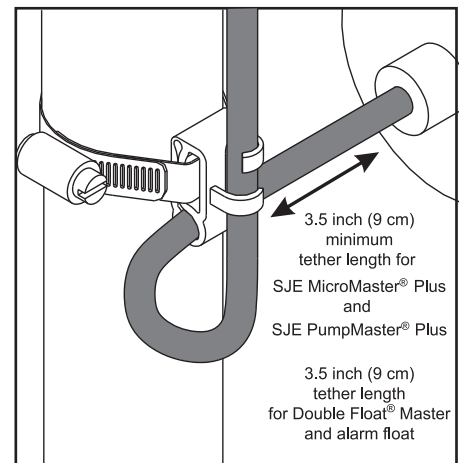

Figure 3
2. Mount float switches at appropriate levels as illustrated in Figure 3. Be sure that floats have free range of motion without touching each other or other equipment in the basin.
3. For mounting clamp installation: place the cord into the clamp as shown in Figure 3. Locate the clamp at the desired activation level and secure the clamp to the discharge pipe as shown in Figure 3.